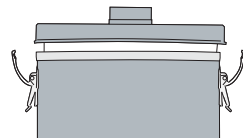

figure 6
3. Unlatch the two clips and remove lid (**figure 6**).